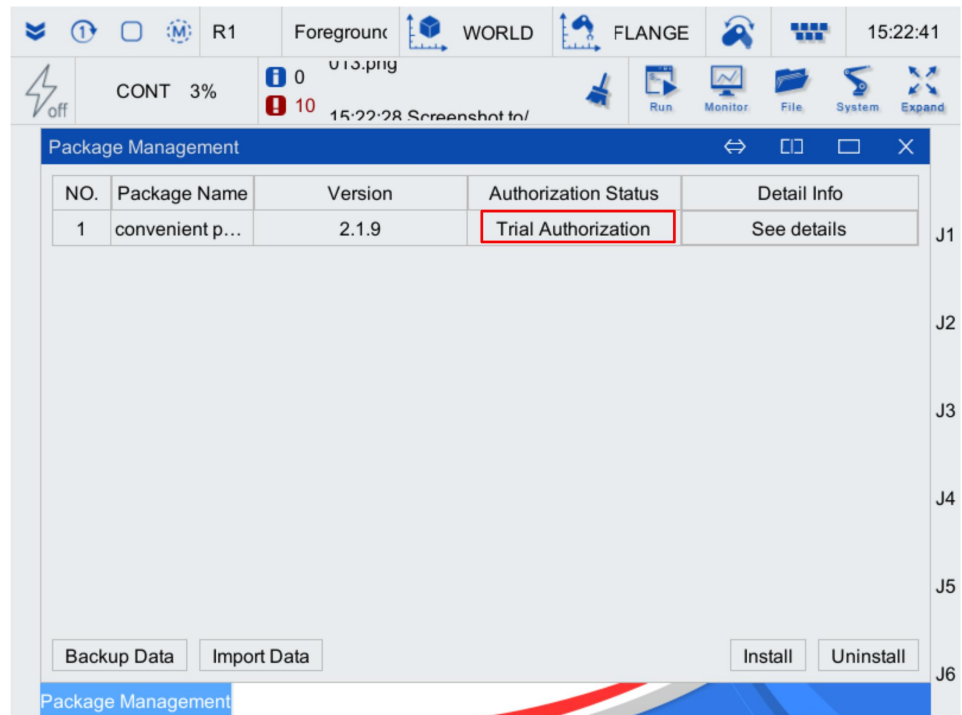

Figure 2-14 Package management interface
Step2. Click [package management] to open the [package management] interface as shown in Figure 2-14. Check the authorization status to determine whether the authorization is successful.